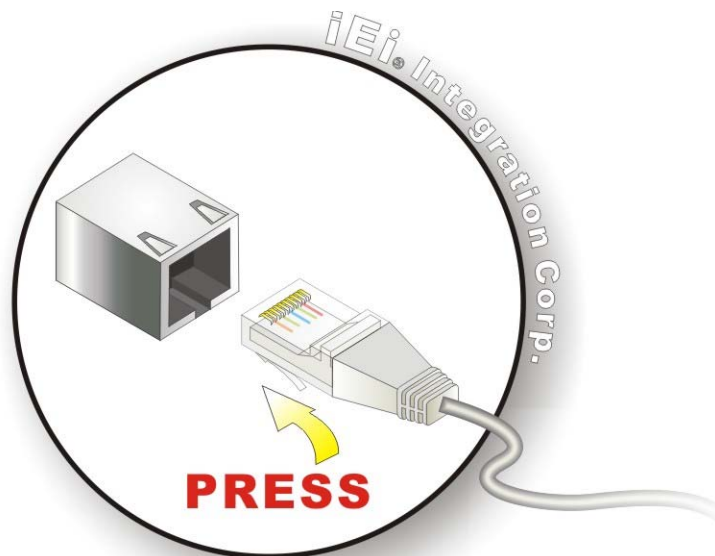

Figure 3-26: LAN Connection
Step 2: Align the connectors. Align the RJ-45 connector on the LAN cable with one of the RJ-45 connectors on the bottom panel of the AFL-HM55 Series. See **Figure 3-26**.